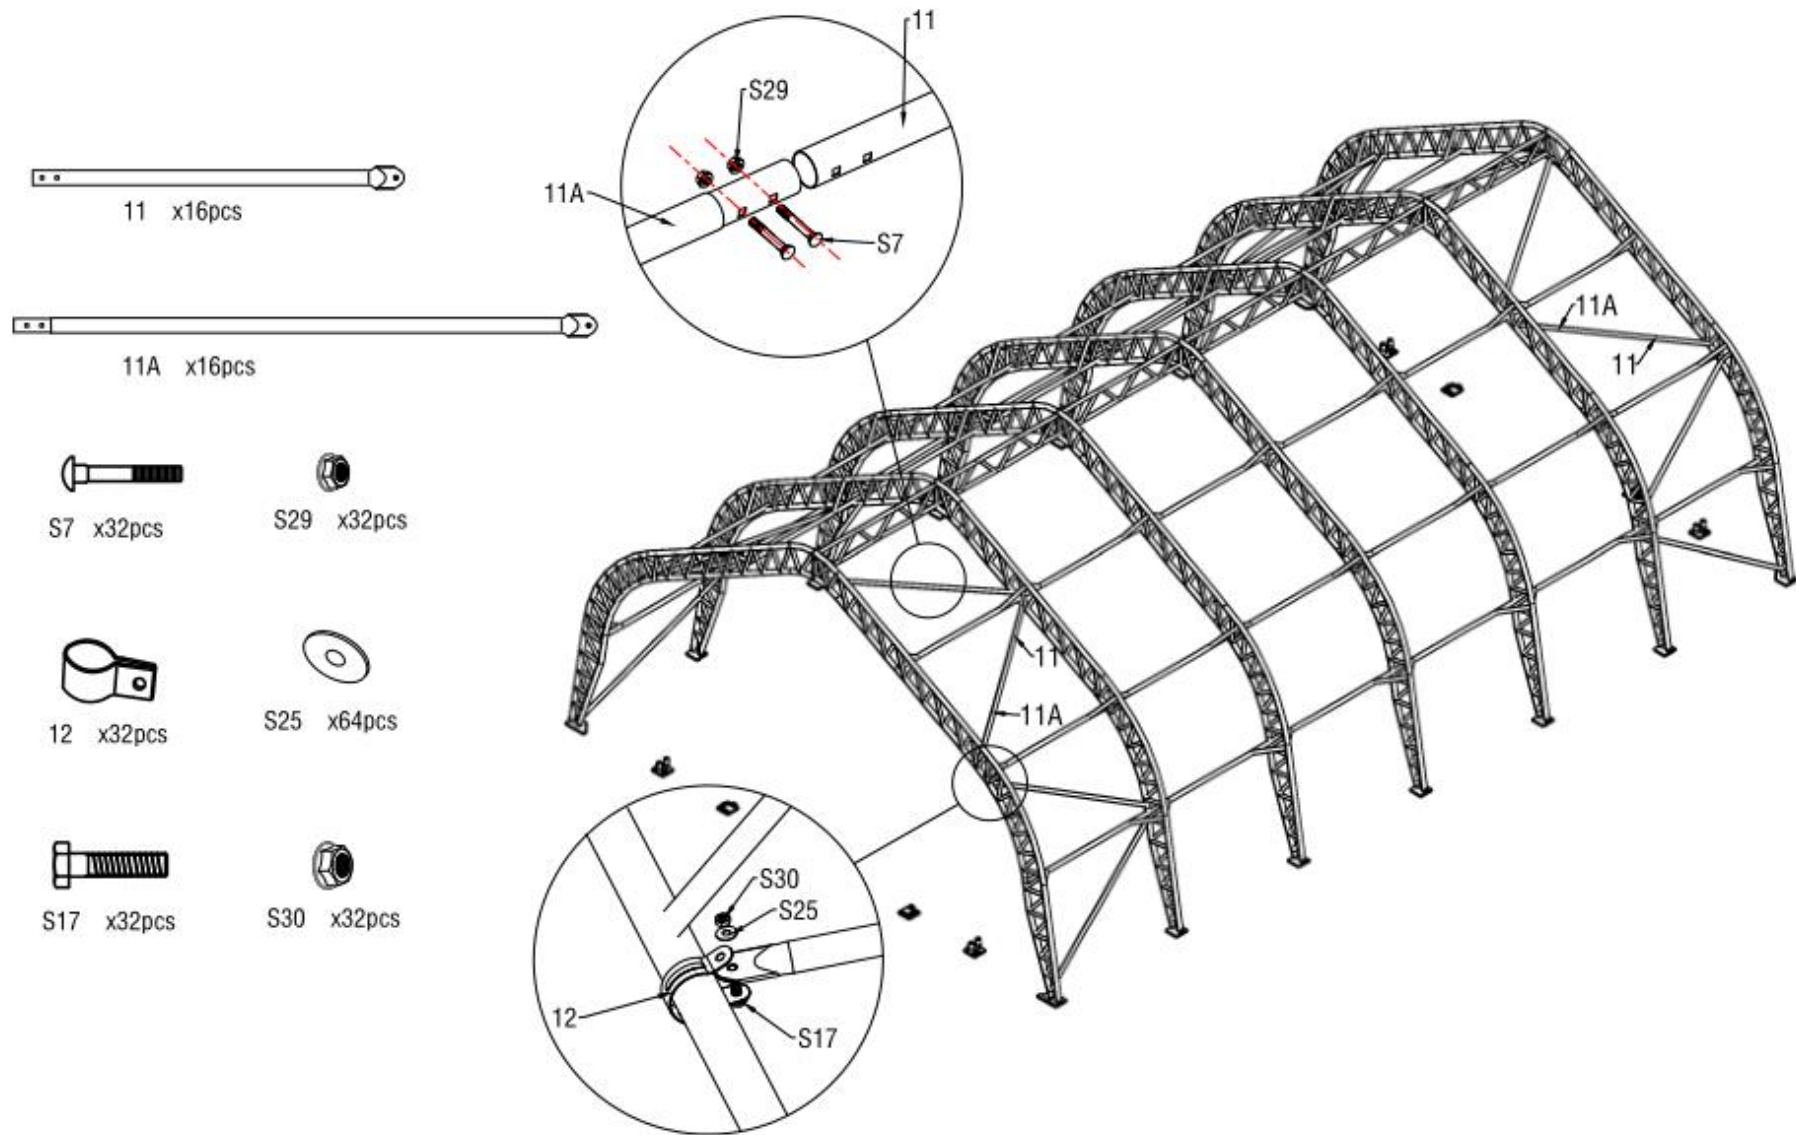

Figure 10
6. As figure 10 shown to find Diagonal Support Female Tube(No.11) and Diagonal Support Male Tube(No.11A) and assemble every group support tube with Carriage bolt M8x60(No.S7) and flange nut M8(No.S29). Then connect the diagonal support tube to arch by using clip(No.12).